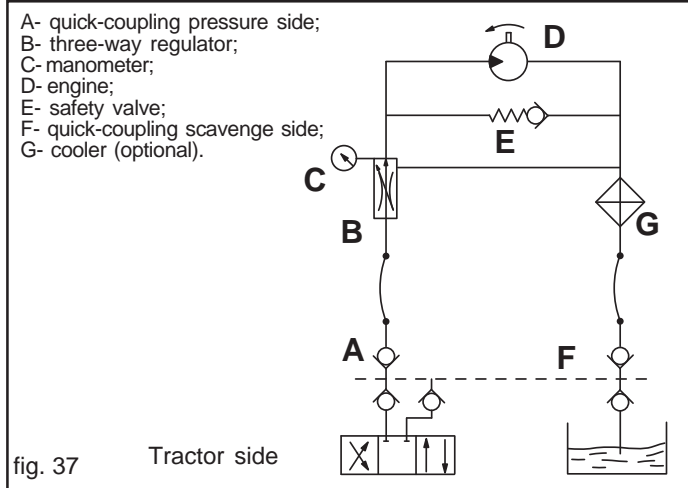

fig. 37 Tractor side
- a) **dependent system:** connected to the tractor's system (Fig. 37).
- **Oil supply:** follow the data of the table in Fig 37. The hydraulic pipes must be connected correctly to the tractor distributors following the instructions on each pipe.
In tractors with a variable flow rate pump (closed hydraulic circuit), equipped with oil flow rate regulator, open the three-way regulator completely (B, Fig. 37) and, starting with a low oil flow rate, gradually open the internal regulator of the tractor circuit until the required pressure is reached as shown by the pressure gauge (C, Fig. 37).